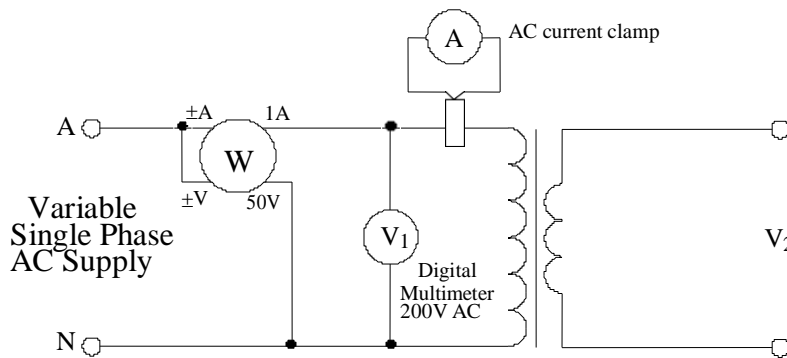

Figure 2
- Connect the circuit shown in figure 2, using the 42V winding as the primary.